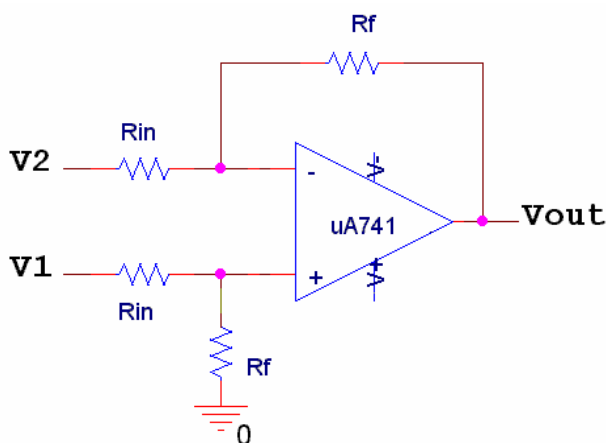

Figure D-2
*The Differential Amplifier:* The circuit in figure D-2 is a *differential amplifier*, also called a *difference amplifier*. Its behavior is governed by the following equation:  $V_{out} = \frac{R_f}{R_{in}} (V_1 - V_2)$ .